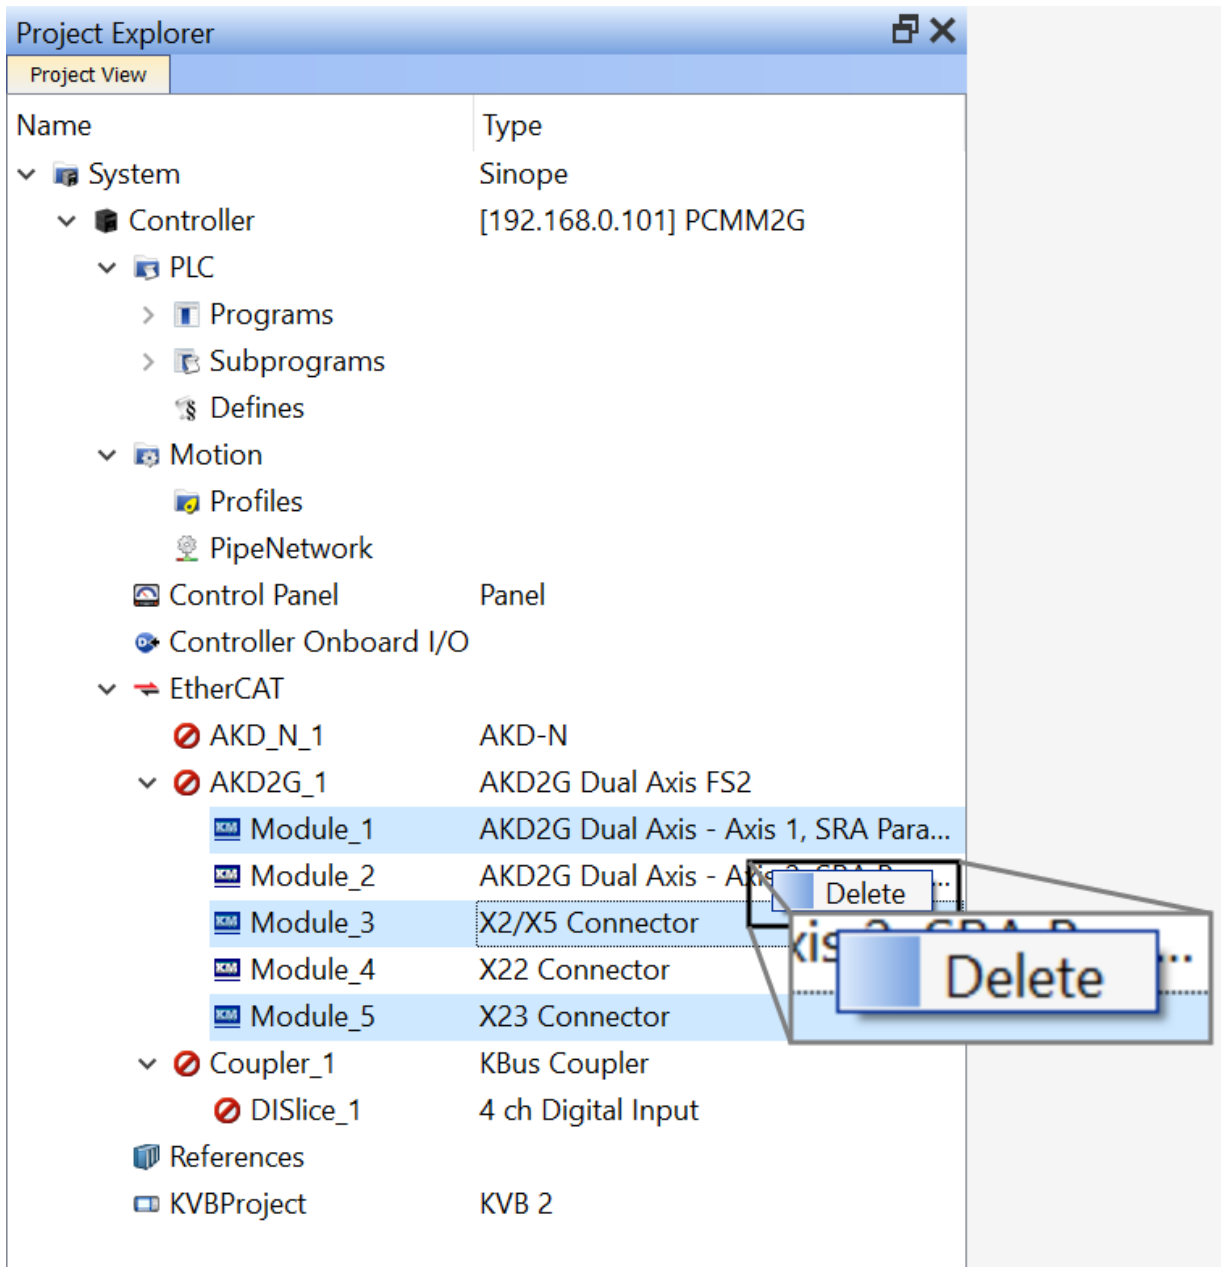

Figure 4-43: Right-click menu - **Delete** selected
2. Press the <Delete> key or right-click and select **Delete** from the menu. (Figure 4-43)